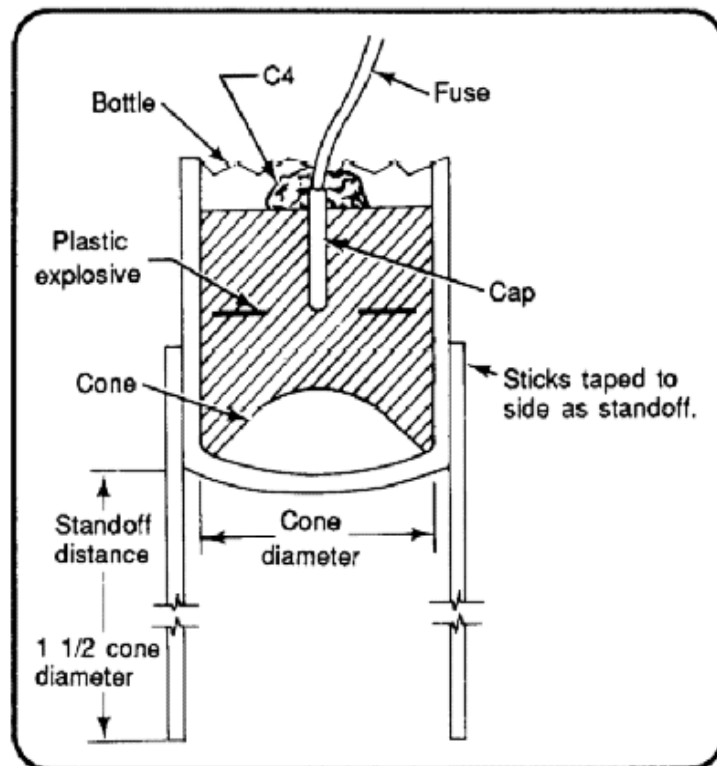

Figure D-1. Improvised shaped charge
a. *Description.* Shaped charges concentrate the energy of the explosion released on a small area, making a tubular or linear fracture in the target. The versatility and simplicity of shaped charges make them effective against many targets, especially those made of concrete or those with armor plating. You can improvise a shaped charge (Figure D-1). Because of the many variables (configuration, explosive density, liner cavity density, and so forth), consistent results are impossible to obtain. Therefore, experiment to determine the optimum standoff distances. Plastic explosive is best suited for this type of charge. However, dynamite and molten TNT can be effective expedients.